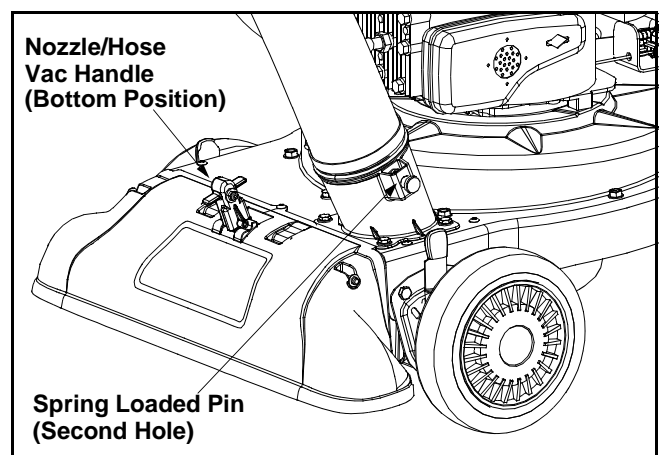

Figure 9
- Place nozzle/hose vac handle in the bottom position on the nozzle to redirect vacuum to the hose assembly. See Figure 9.